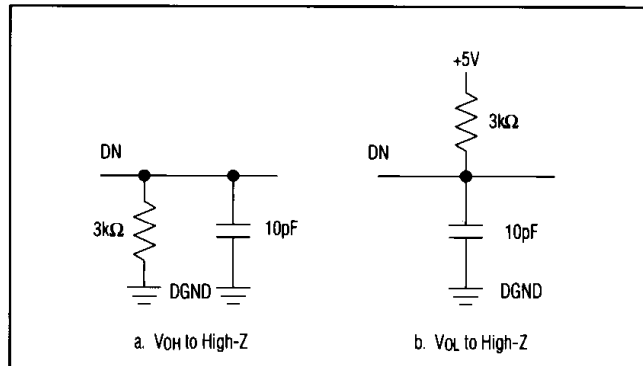

Figure 2. Load Circuits for Bus-Relinquish Time
**Note 6:** t7 is defined as the time required for the data lines to change 0.5V when loaded with the circuit of Figure 2.